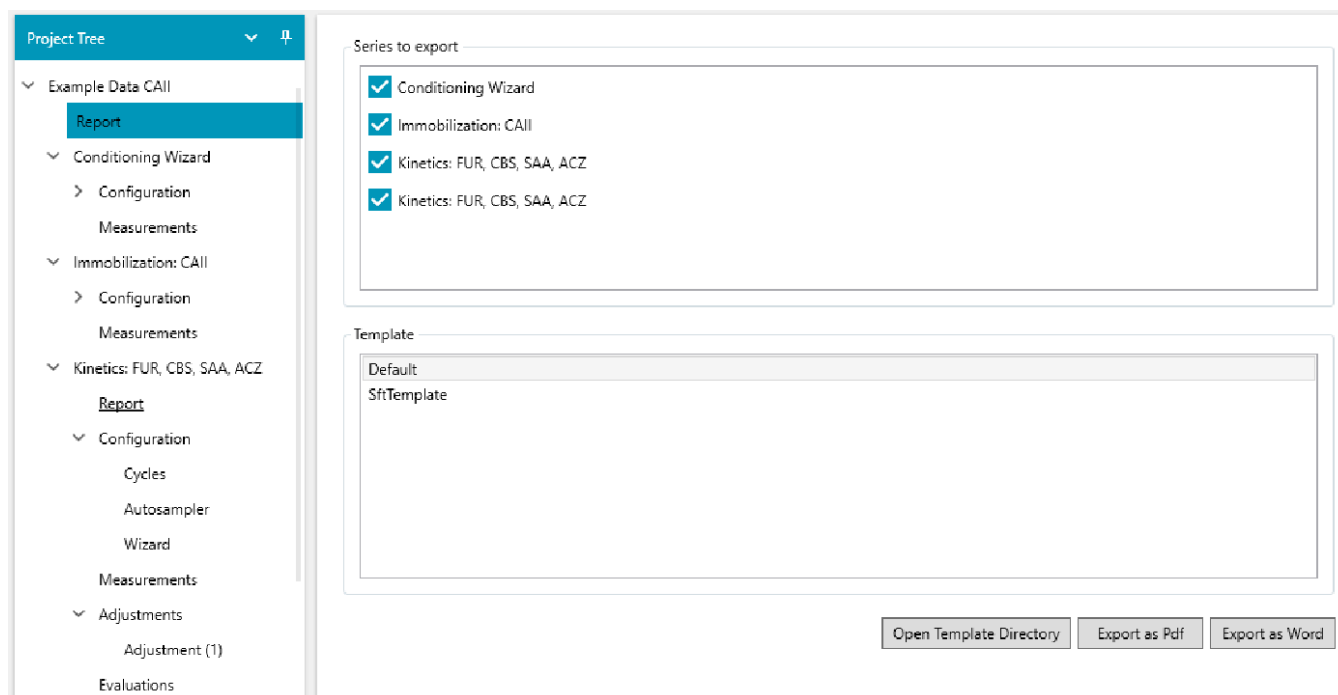

Figure 9. Main report configuration window.
- \_\_To export a report (Figure 9):